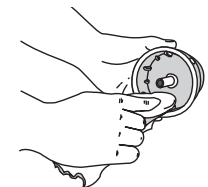

Fig. 29
4. Use a clean cloth to clean the the inner reel, spring, shaft and inner surface of the outer spool (Fig. 29).